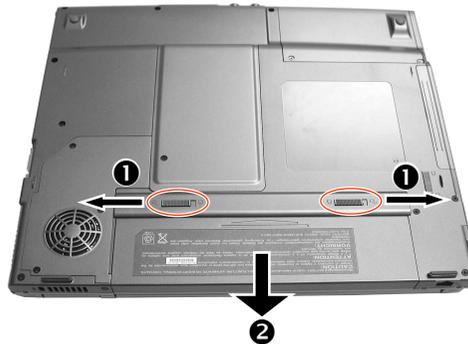

Figure 2-1 Remove the battery pack
2. Pull the battery pack out of the compartment (❷) while sliding and holding the release levers outwards to the “unlock” (🔓) position (❶). (Figure 2-1)